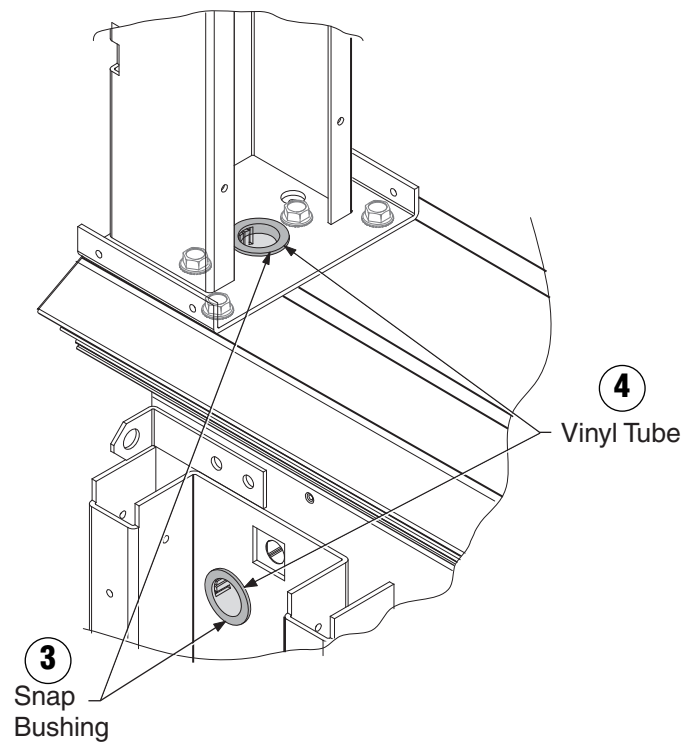

Figure 8 — Snap Bushings and Vinyl Sleeve Tube
5. Insert *Snap Bushings* on left end at locations indicated in Figure 8.